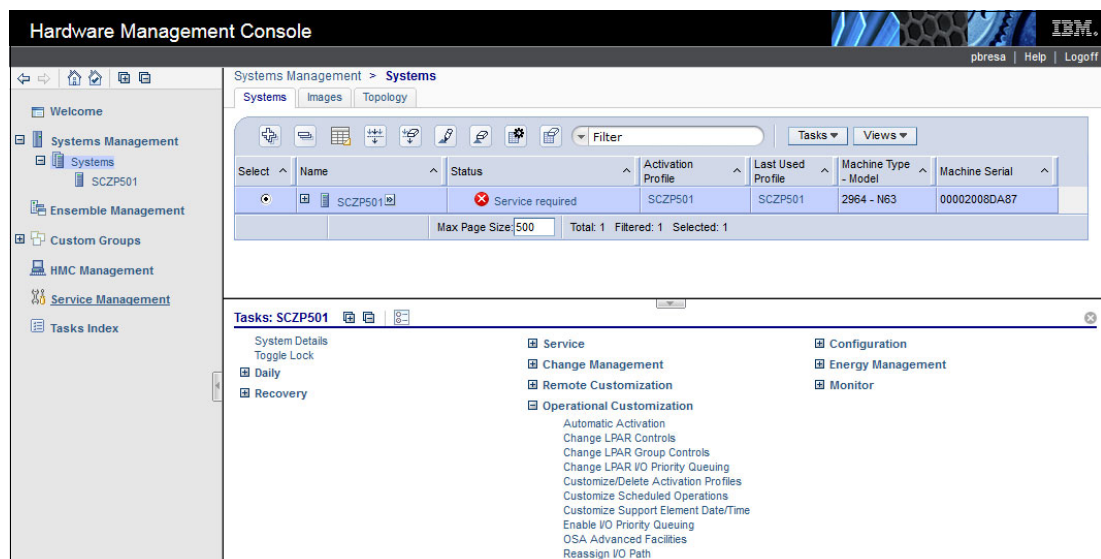

Figure 6-141 HMC - Customize Activation Profiles
4. On the Tasks panel, click **Operational Customization** to expand it, and select **Customize/Delete Activation Profiles** (Figure 6-141).